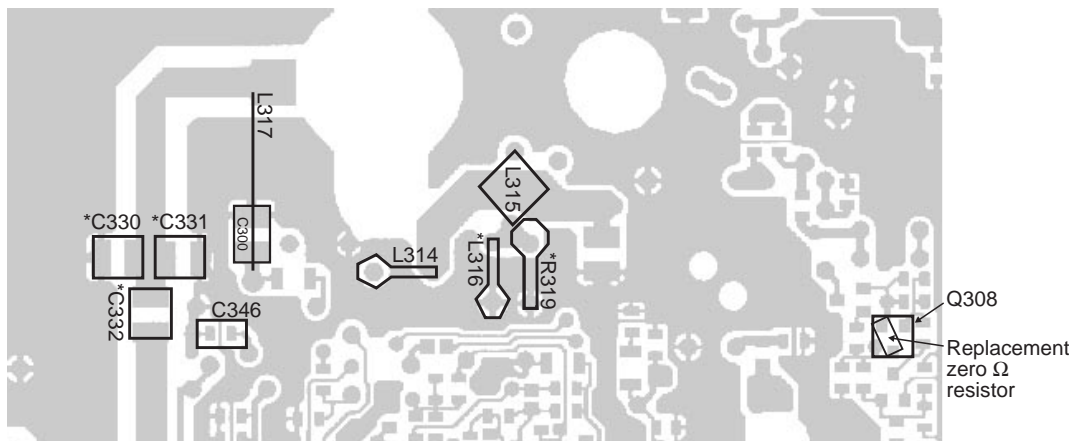

Figure 8.3.1 T2000-500/600 PA - Top Side
- 1 Refer to Figure 8.3.1.
- 3 Remove the output matching capacitors, \*C330, C331 and \*C332 from the top side of the PA (shown in Figure 8.3.1).